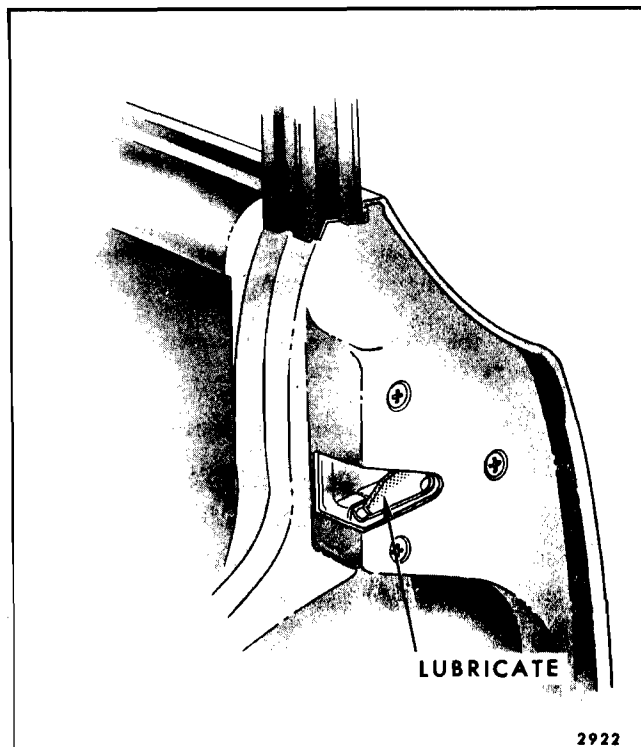

Fig. 2-6—Door Lock Fork Bolt Lubrication
2. Apply a thin coat of grease stick lubricant (Doorease or equivalent) to the areas indicated (Fig. 2-6).